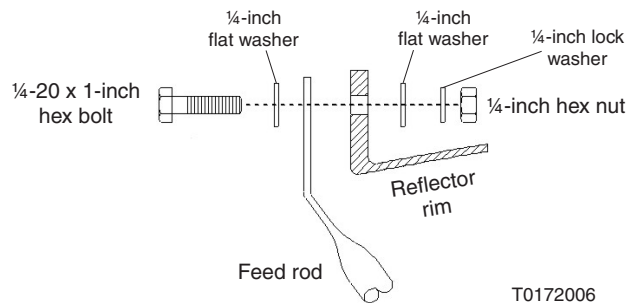

Figure 18: Attaching feed rods to the reflector
1. Attach the feed rods to the rim of the reflector as shown in Figure 18.